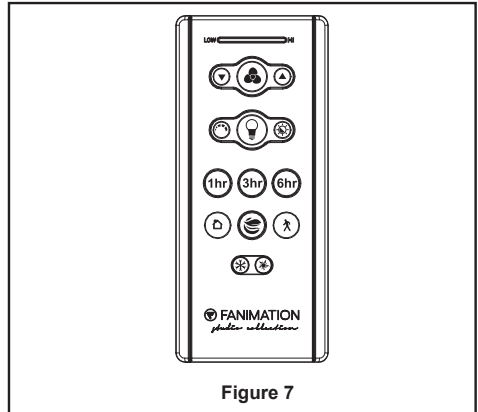

Figure 7
- ☐ 7. Secure the glass to the LED assembly by twisting in a clockwise direction. Twist the glass gradually **until it snaps onto the LED assembly**. Do not over-tighten. (Figure 7)
7. Remote functions: (Figure 7)